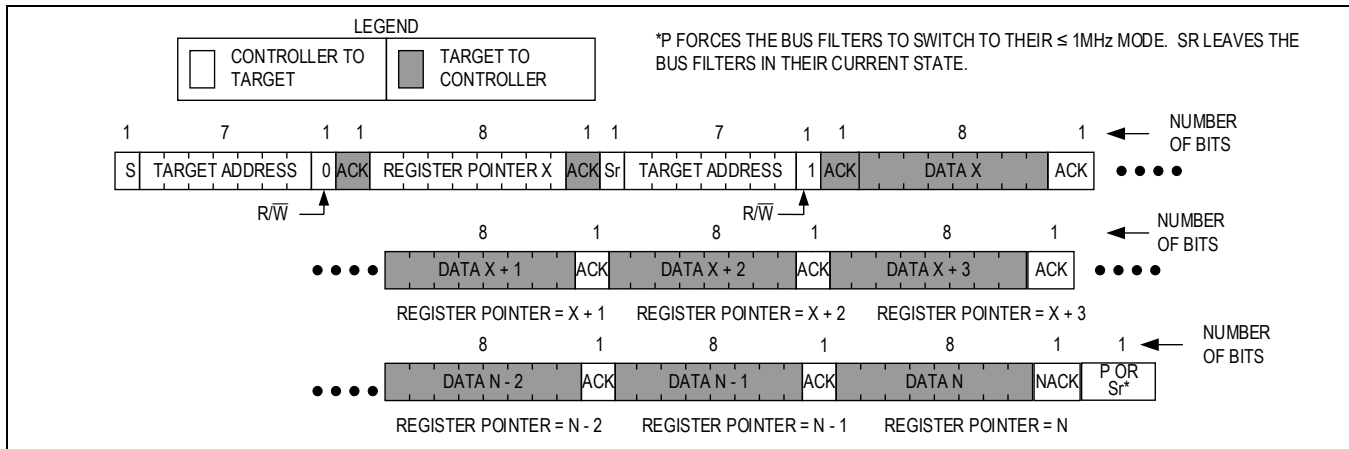

Figure 21. Reading from Sequential Registers
Figure 21 shows the protocol for reading from sequential registers. This protocol is similar to the read byte protocol, except the controller device issues an ACKNOWLEDGE (ACK) to signal the target device that it wants more data. When the controller device has all the data it requires, it issues a NOT ACKNOWLEDGE (NACK) and a STOP condition (P) to end the transmission.